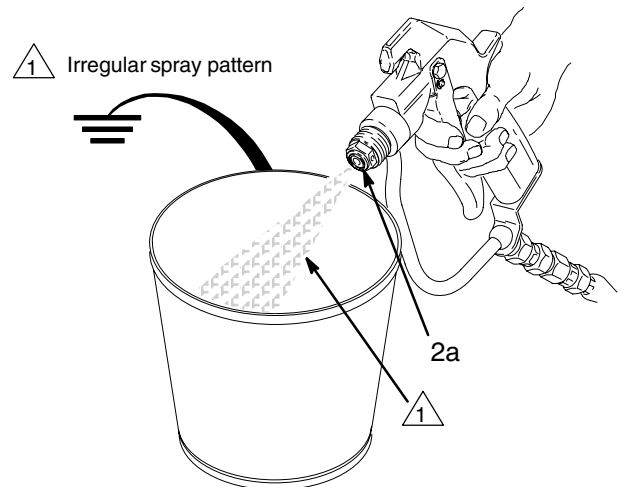

Fig. 5
4. Aim the gun into a grounded metal pail while holding it firmly to the pail. Trigger the gun. If the fluid emitted **is not** diffused into an irregular stream, replace the entire needle kit immediately. See Fig. 5.